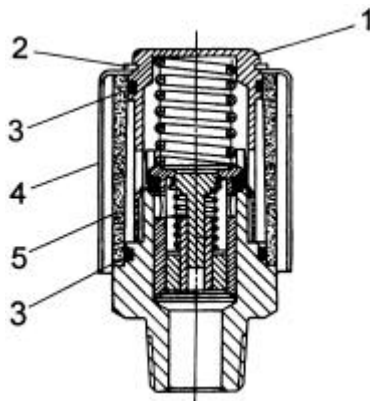

Fig. 5.38. Hydraulic Reservoir Breather
Breather filter (5) should be either cleaned or replaced periodically (Fig. 5.38).
2. Remove retaining ring (2) and cover (4).